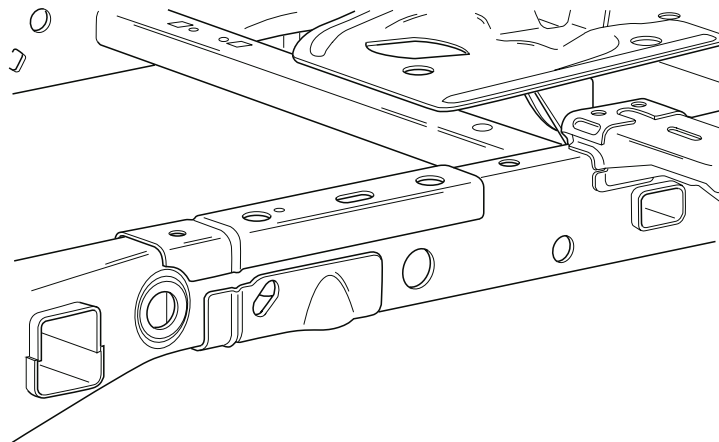

FIGURE 9 – VIEW OF REAR RAIL REINFORCEMENTS INSTALLED, LH OUTER SHOWN, RH IS SYMMETRICALLY OPPOSITE
6. Position the rear frame reinforcement brackets, clamp them in place, apply weld through primer as in Step 2, then weld as shown. (Refer to Figures 9 and 10).